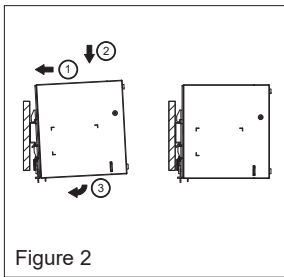

Figure 2
3. Mounting (Fig. 2)
1. Tilt the unit slightly upwards and put it onto the DIN rail. Snap on the DIN rail as shown in Fig. 2.